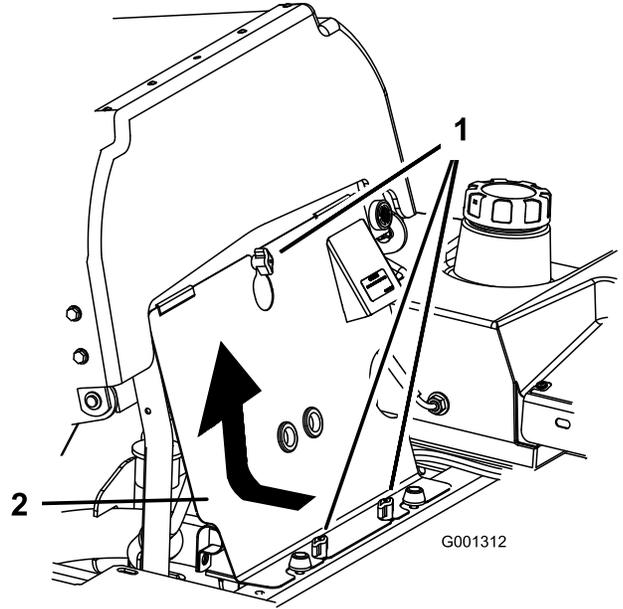

Figure 67
1. Tilt the seat forward and remove the front engine panel (Figure 67).